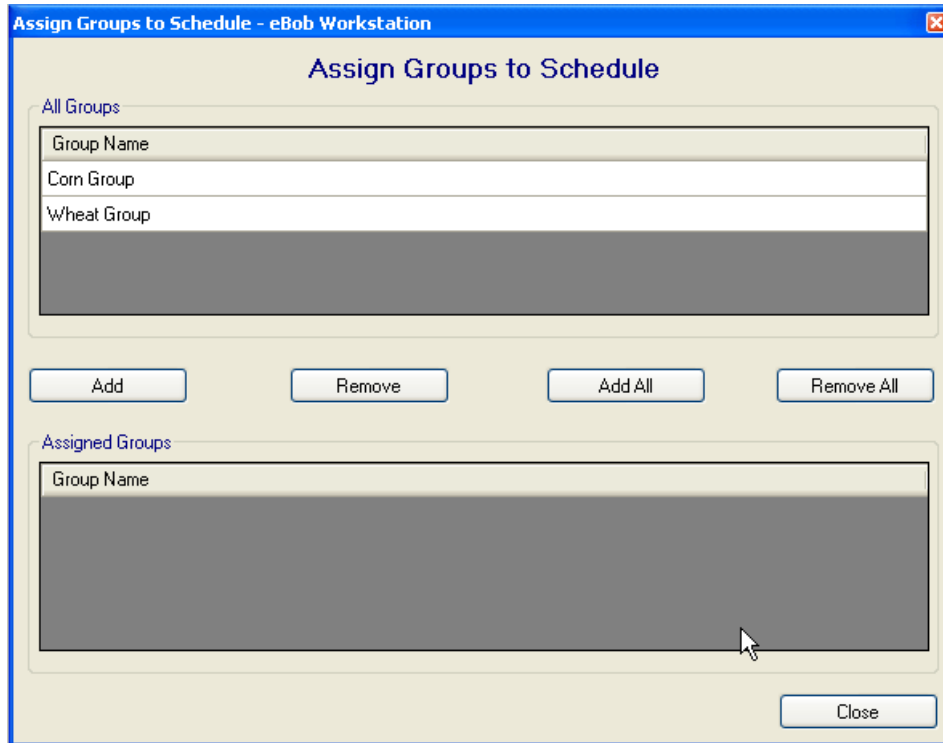

Figure 27
- **Assign Groups** Assigns the particular Vessel Groups (Figure 27) to run this schedule.